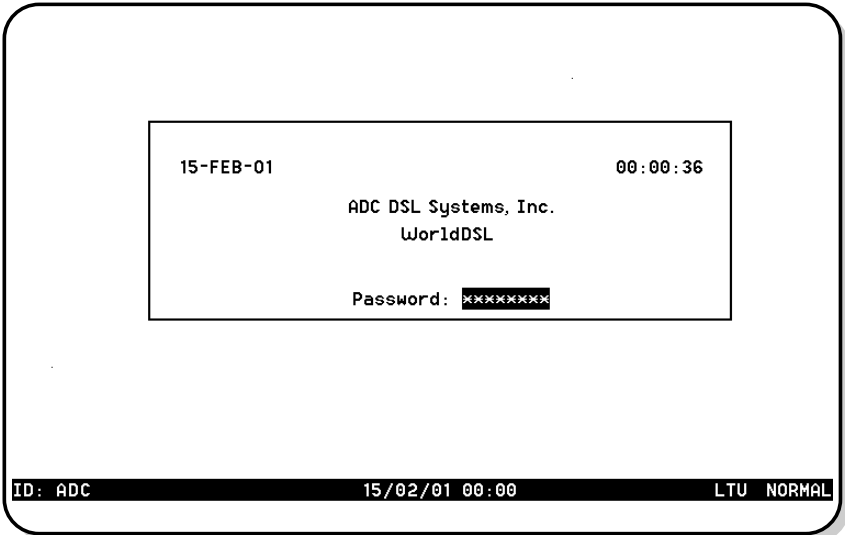

Figure 7. Logon Password Screen
- 1 Press the **SPACEBAR** several times to activate the autobaud feature and to display the Logon Password screen (Figure 7 below).